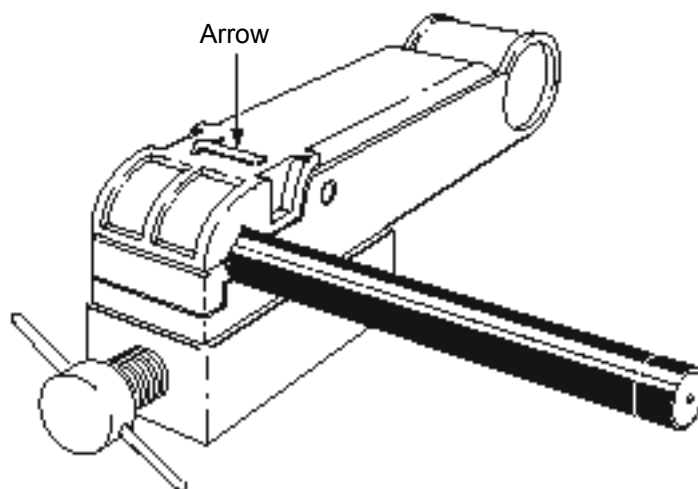

Figure 30 – Inserting the cable in stripper/activator tool
2. Insert the cable into the stripper/activator tool until the end of the cable is flush with the end of the tool. The SCSA-596 tool has a stop that helps position the cable. The arrow on the tool shows which way to insert the cable; see Figure 30.